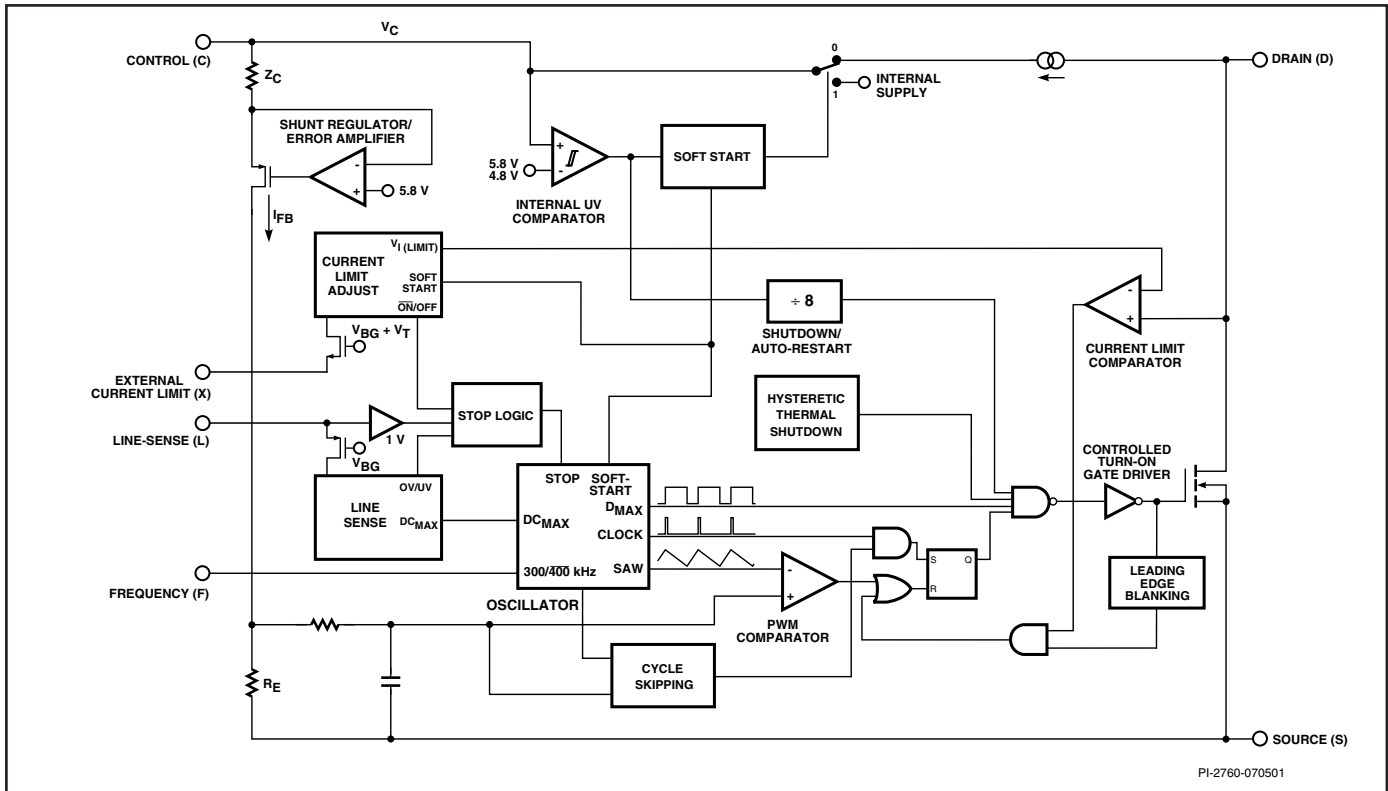
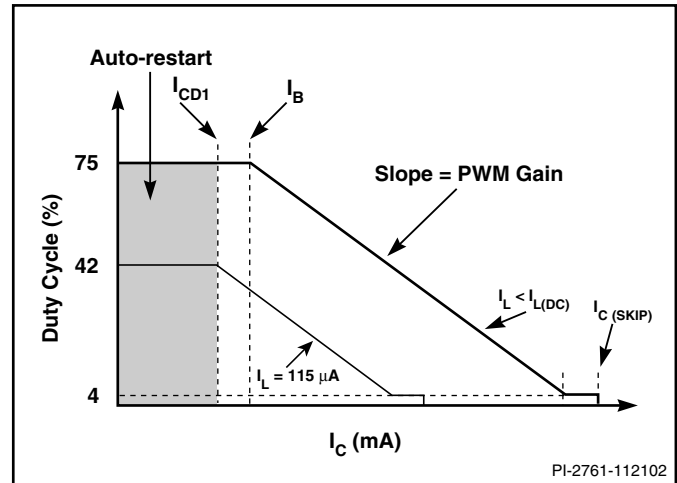

Figure 2. Functional Block Diagram.
Figure 4. Relationship of Duty Cycle to CONTROL Pin Current.
*DPA-Switch* is an integrated switched mode power supply chip that converts a current at the control input to a duty cycle at the open drain output of a high voltage power MOSFET. During normal operation the duty cycle of the power MOSFET decreases linearly with increasing CONTROL pin current as shown in Figure 4. A patented high-voltage CMOS technology allows both the high-voltage power MOSFET and all the low voltage control circuitry to be cost effectively integrated onto a single monolithic chip.
approximately 5.8 V, the control circuitry is activated and the soft-start begins. The soft-start circuit gradually increases the duty cycle of the MOSFET from zero to the maximum value over approximately 5 ms. The high voltage current source is turned off at the end of the soft-start. If no external feedback/supply current is fed into the CONTROL pin by the end of the soft-start, the CONTROL pin will start discharging in response to the supply current drawn by the control circuitry and the gate current of the switching MOSFET driver. If the power supply is designed properly, and no fault condition such as open loop or overloaded output exists, the feedback loop will close, providing external CONTROL pin current, before the CONTROL pin voltage has had a chance to discharge to the lower threshold voltage of approximately 4.8 V (internal supply under-voltage lockout threshold). When the externally fed current charges the CONTROL pin to the shunt regulator voltage of 5.8 V, current in excess of the consumption of the chip is shunted to SOURCE through resistor  $R_E$  as shown in Figure 2. This current flowing through  $R_E$  controls the duty cycle of the power MOSFET to provide closed loop regulation. The shunt regulator has a finite low output impedance  $Z_C$  that sets the gain of the error amplifier when used in a primary feedback configuration. The dynamic impedance  $Z_C$  of the CONTROL pin together with the external CONTROL pin capacitance sets the dominant pole for the control loop.
The pulse width modulator implements voltage mode control by driving the output MOSFET with a duty cycle inversely proportional to the current into the CONTROL pin that is in excess of the internal supply current of the chip (see Figure 4). The excess current is the feedback error signal that appears across  $R_E$  (see Figure 2). This signal is filtered by an RC network with a typical corner frequency of 30 kHz to reduce the effect of switching noise in the chip supply current generated by the MOSFET gate driver. The filtered error signal is compared with the internal oscillator sawtooth waveform to generate the duty cycle waveform. As the control current increases, the duty cycle decreases. A clock signal from the oscillator sets a latch that turns on the output MOSFET. The pulse width modulator resets the latch, turning off the output MOSFET. Note that a minimum current must be driven into the CONTROL pin before the duty cycle begins to change.
To maintain power supply output regulation, the pulse width modulator reduces duty cycle as the load at the power supply output decreases. This reduction in duty cycle is proportional to the current flowing into the CONTROL pin. As the CONTROL pin current increases, the duty cycle reduces linearly towards a minimum value specified as minimum duty cycle,  $DC_{MIN}$ . After reaching  $DC_{MIN}$ , if CONTROL pin current is increased further by approximately 2 mA, the pulse width modulator will force the duty cycle from  $DC_{MIN}$  to zero in a discrete step (refer to Figure 4). This feature allows a power supply to operate in a cycle skipping mode when the load consumes less power than the *DPA-Switch* delivers at minimum duty cycle,  $DC_{MIN}$ . No additional control is needed for the transition between normal operation and cycle skipping. As the load increases or decreases, the power supply automatically switches between normal and cycle skipping mode as necessary.
The same resistor used for UV and OV also implements line voltage feed-forward that minimizes output line ripple and reduces power supply output sensitivity to line transients. This feed-forward operation is illustrated in Figure 4 by the different values of  $I_L$ . Note that for the same CONTROL pin current, higher line voltage results in smaller operating duty cycle. As an added feature, the maximum duty cycle  $DC_{MAX}$  is also reduced from 75% (typical) at a voltage slightly higher than the UV threshold to 33% (typical) at the OV threshold (see Figures 4, 7). Limiting  $DC_{MAX}$  at higher line voltages helps prevent transformer saturation due to large load transients in forward converter applications.  $DC_{MAX}$  of 33% at the OV